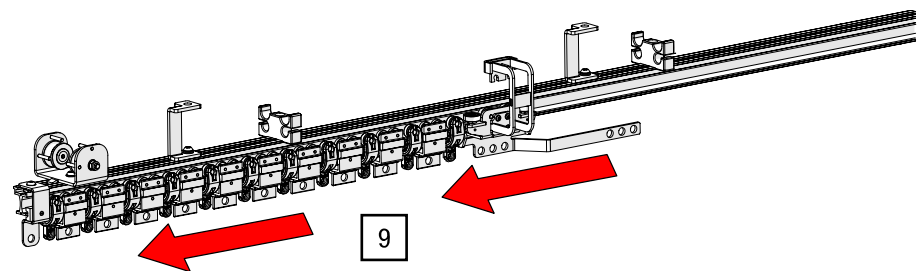

Fig. 109: Double top cord operation – Push the trolleys together
9. In the case of a two-part curtain, push the runner and master runner together as far as possible in the stowage area on each side (see Fig. 109).